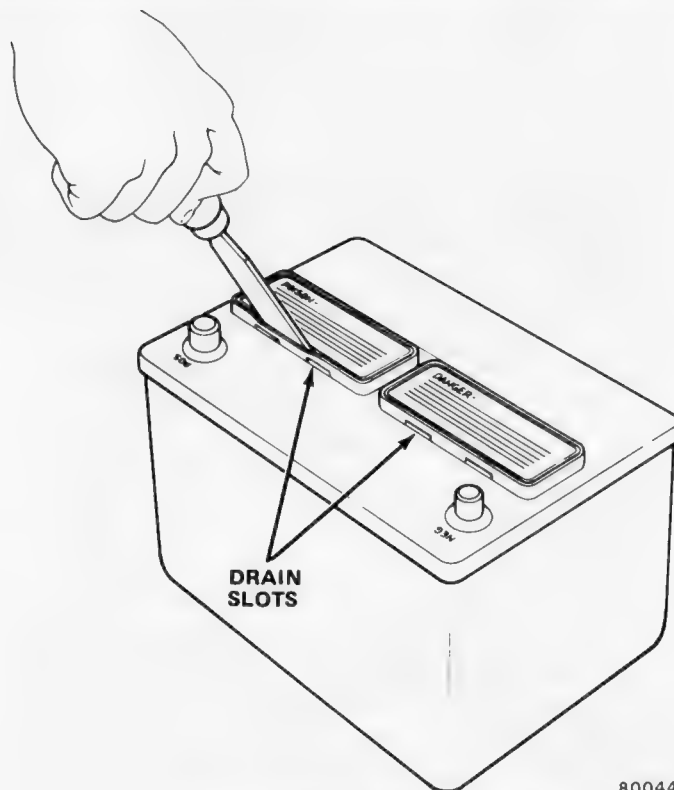

Fig. B-1 Removing Battery Filler Caps
- (1) Disconnect battery negative cable and then the positive cable.
- (2) Clean the cables and terminal posts with a wire brush terminal cleaner.
- (3) Check the battery fluid level and replenish if necessary (fig. B-1).